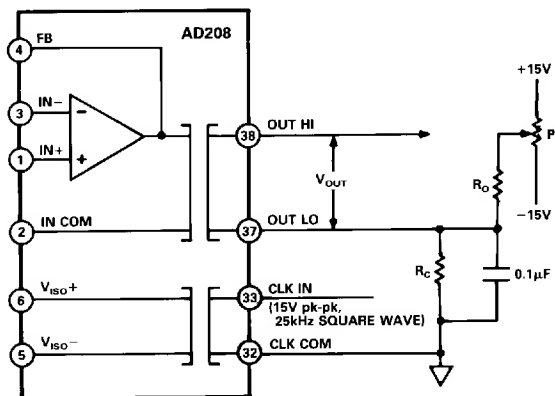

Figure 33. Output Side Offset Adjustment Circuit
**Offset Adjustment.** Figure 33 shows the recommended technique for offset adjustment at the output. In this circuit, a  $\pm 15$  V dc voltage is supplied by an independent source. With reference to the output circuitry shown in Figure 33, the maximum offset adjustment range is given by: